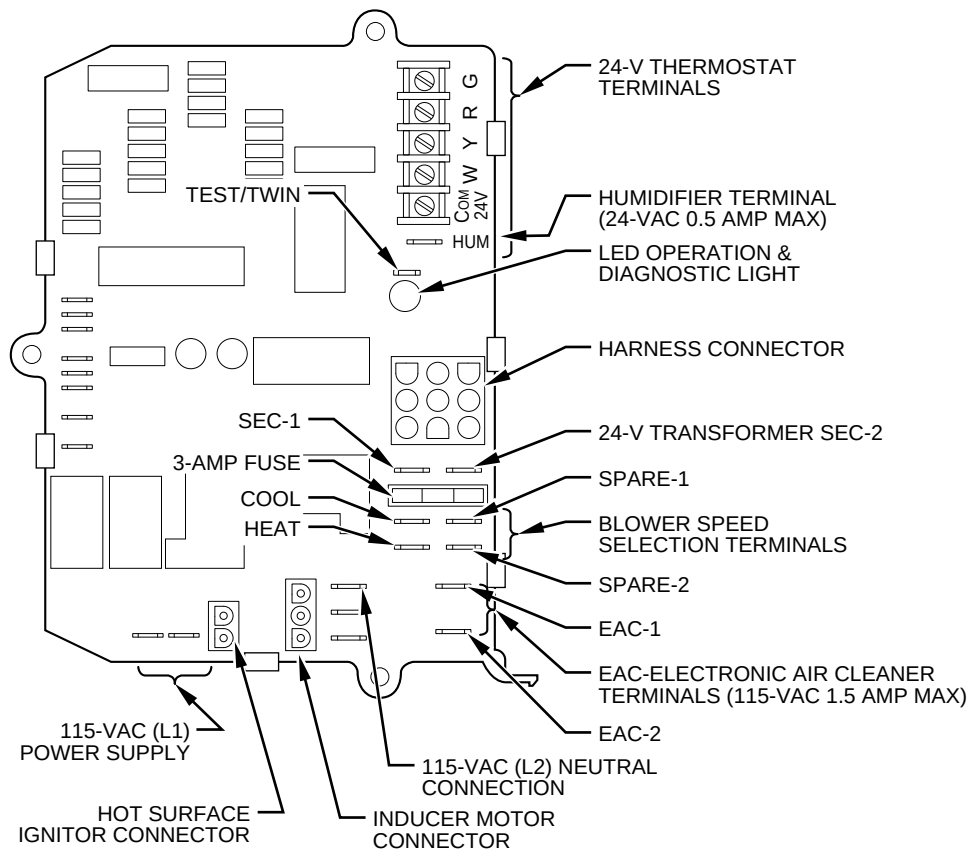

Fig. 11—Control Board
The 24-v circuit contains an automotive-type, 3-amp fuse located on the control board. (See Fig. 11.) Any direct shorts of the 24-v wiring during installation, service, or maintenance will cause this fuse to blow. If fuse replacement is required, use ONLY a fuse of identical size.
- BRIEFLY short (jumper) TEST, 1/4-in. quick-connect terminal on control center (adjacent to LED diagnostic light), and Com terminal on thermostat connection block. (See Fig. 11.)